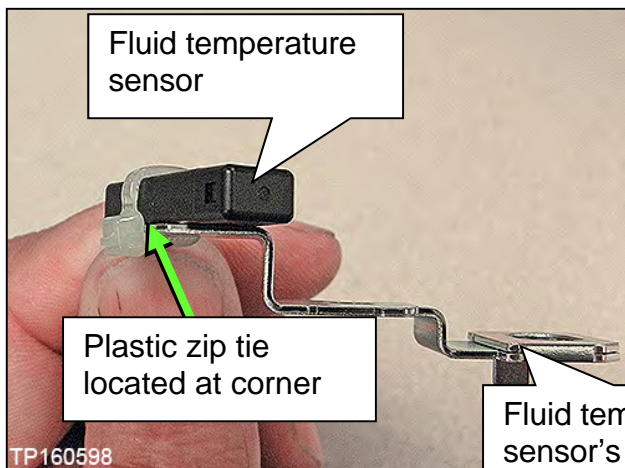
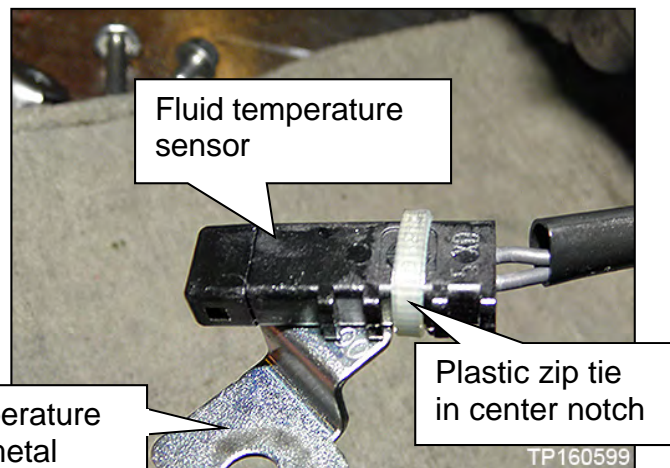

Figure 155
Figure 156
- a. Cut the old plastic zip tie with an appropriate tool to remove the fluid temperature sensor's metal bracket from the terminal harness assembly (Figure 155 and Figure 156).
- o Secure the plastic zip tie at the center notch of three notches on the fluid temperature sensor (Figure 155).
- o Tighten the plastic zip tie so that it is oriented as shown in Figure 156.